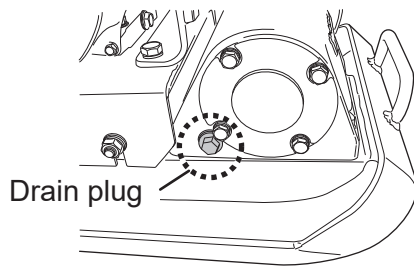

Fig.22
1. Changing the vibrator oil (fig.22)